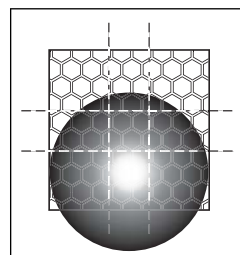

Fig 21
- Now turn the other thumbwheel and carry out the steps described in points 3 to 6. *Figs 21 and 22* correspondingly show the tilting movement.